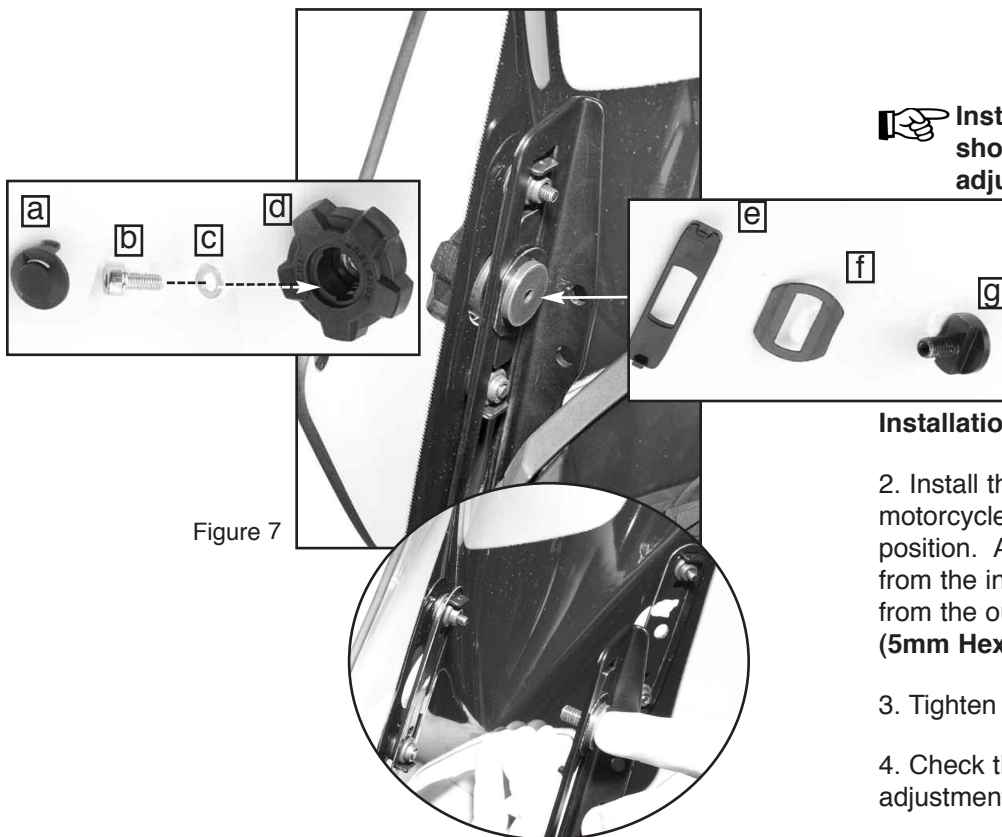

Figure 7
2. Install the VStream Windscreen to the motorcycle's windshield bracket in the lowest position. Assemble stock parts (e, f, and g) from the inside of Windshield and (b, c, and d) from the outside. Repeat on opposite side. (5mm Hex Key) Figure 7